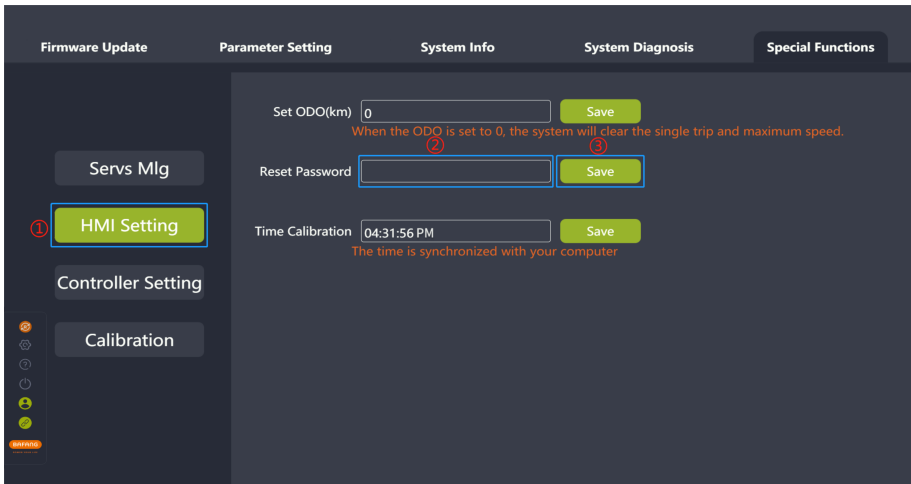

Fig 8-5 Reset the power-on password
- 3. Click "Save", and the password will be reset successfully (Figure 8-5).